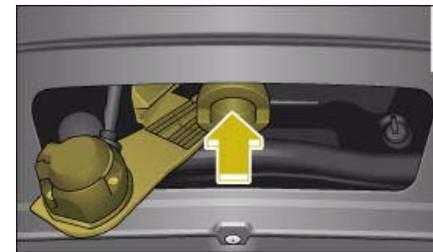

Fig. 237 Socket (folded down)
- Check that the mounting for the towing bracket, which will now have become visible -arrow- ⇒ fig. 237, is free of dirt, and clean if necessary ⇒ ⚠.